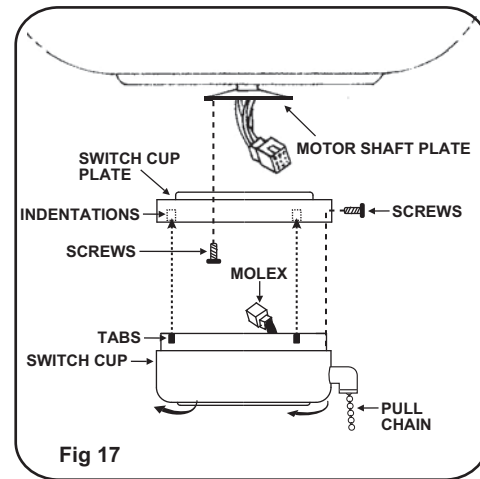

Fig 17
Step 1. Remove the screws from the motor shaft plate. Place the switch cup plate over the motor shaft plate and against the holes. Secure in place with screws previously removed. (Fig. 17)
Step 2. Remove the screw from the switch cup. While holding the switch cup, firmly snap the wire molexes together. Next, slide switch cup up against plate (tabs and indentations) and rotate it until the screw holes are aligned. Secure switch cup to plate using the screw removed earlier. (Fig. 17)
Step 3. Attach the pull chain fob to the chain on the switch cup. (Fig. 17)